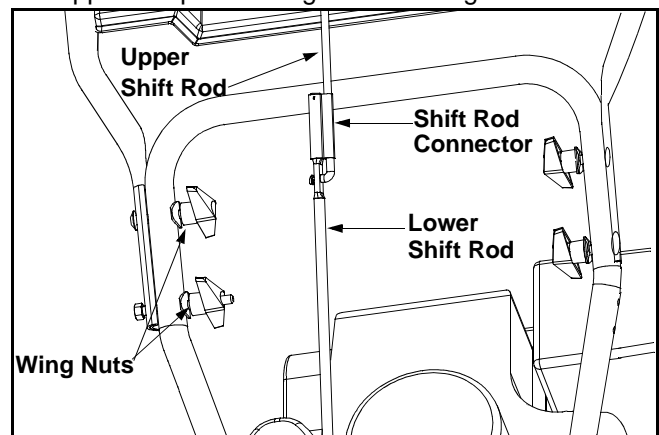

Figure 4
- Secure the upper handle and lower handle with the two plastic wing knobs, cupped washers and carriage bolts previously removed and tighten the upper two plastic wing nuts. See Figure 4.
- Slide the shift rod connector down over the end of the lower shift rod. Tap the connector until it **locks** on the lower shift rod. See Figure 4.